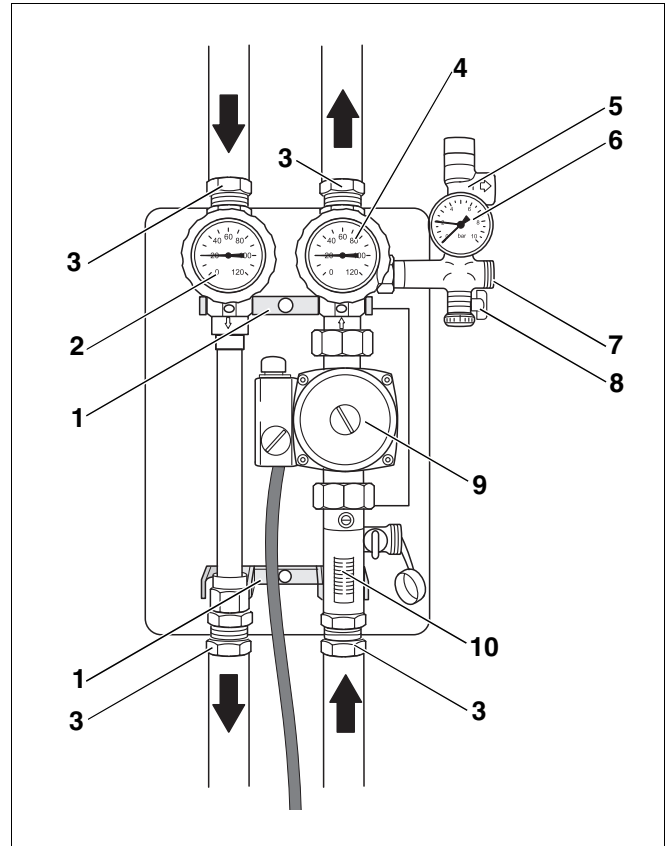

Fig. 1 Solar pump station for one consumer)
- Two ball valves (Fig. 1, **Item 2** and **4**) with integral thermometers and display for checking actual values at the solar pump station.
- A safety assembly (Fig. 1, **Item 5**, separate delivery unit), which protects the solar heating circuit. The safety valve and pressure gauge (Fig. 1, **Item 6**) are integrated in the safety assembly.
- A circulation pump (Fig. 1, **Item 9**).
- A flow limiter with fill & drain valve and shut-off valve (Fig. 1, **Item 10**).
The heat transfer fluid is circulated by the circulation pump integrated in the solar pump station (Fig. 1, **Item 9**).